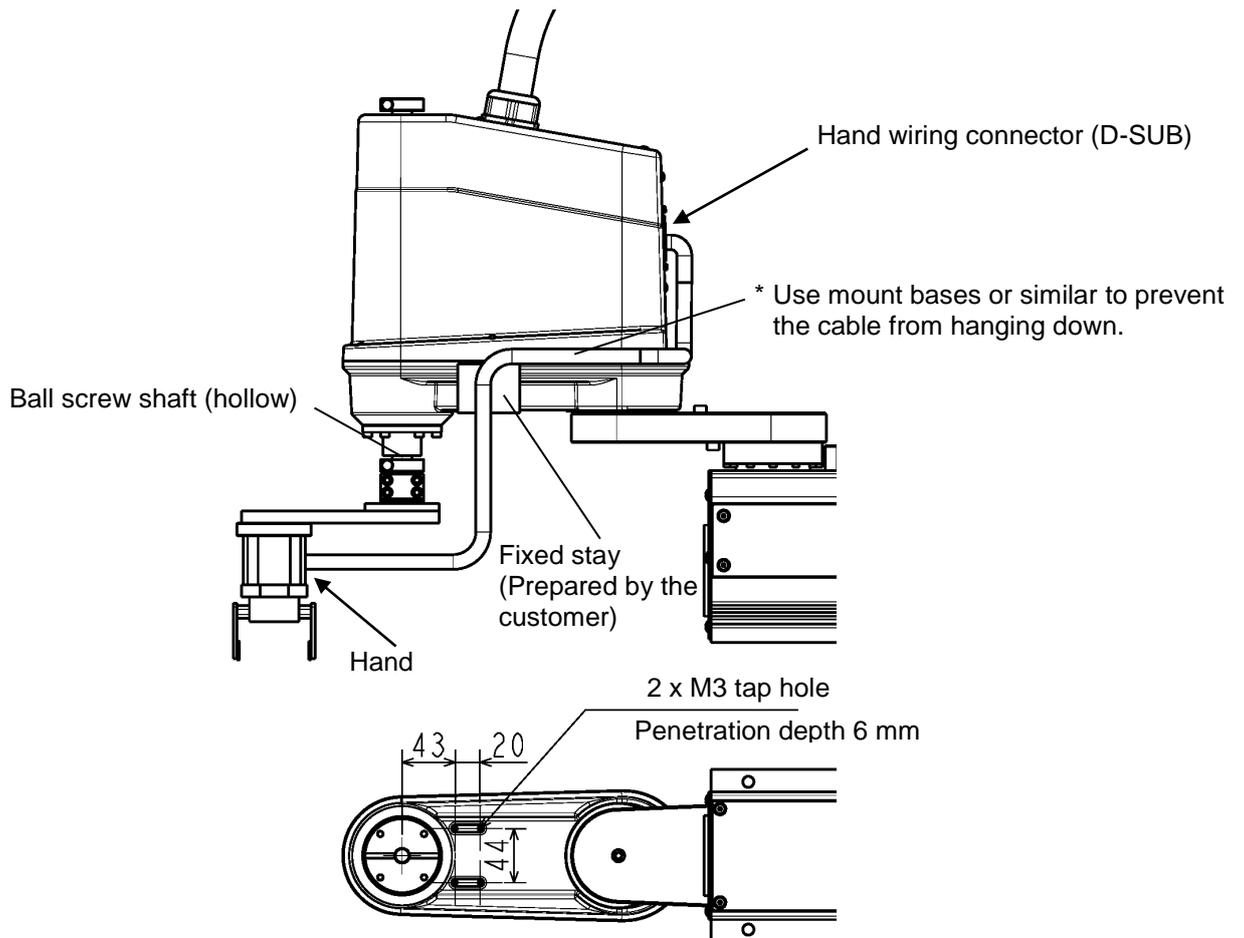

Fig. 11.6 Tool cable wiring installation example using the connector (D-SUB) (KHL-300 and KHL-400)
Fig. 11.6 to 11.7 shows an installation example of tool cable wiring using the connector (D-SUB) for the reference. Parts used for examples are not accessories. Please design and prepare such parts.
- Fig. 11.6 to 11.9 is a reference example and it dose not guarantee the robot's wire harness. The warranty does not cover breakdowns of the robot's wire harness due to wiring by the customer.